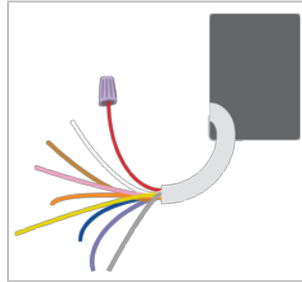

Figure 14-Wiring
- Step 14 Verify the wiring now looks similar to Figure 14.